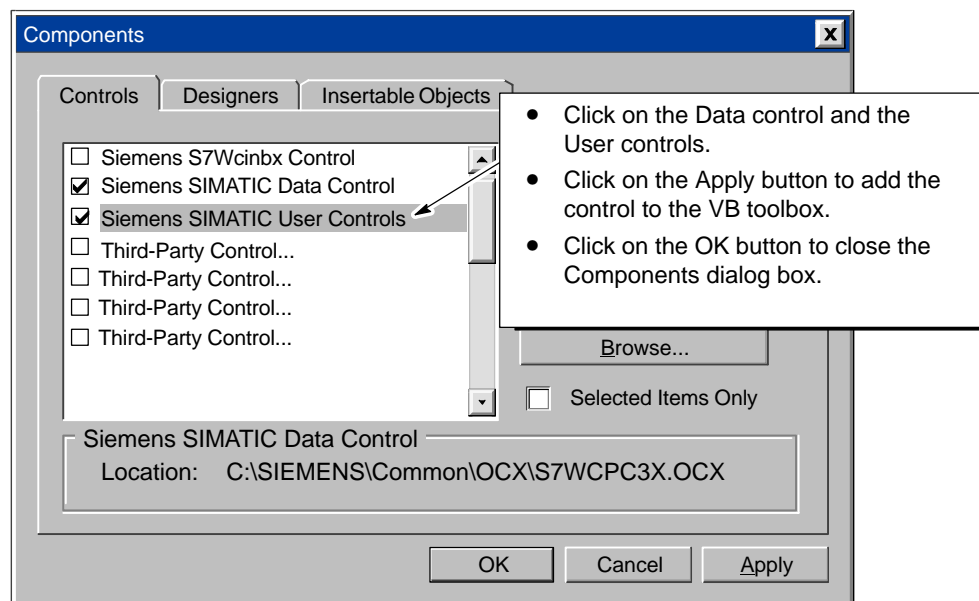

Figure 1-3 Adding SIMATIC Controls to the VB Toolbox
3. As shown in Figure 1-3, select the following SIMATIC controls in the Components dialog box: